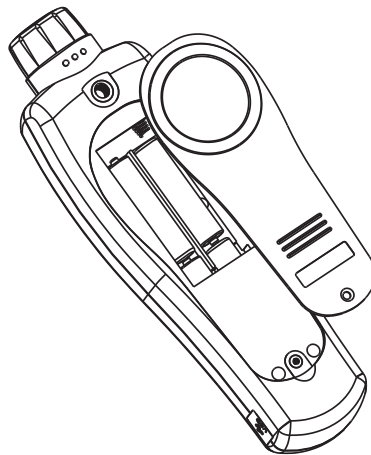

Figure 7
B. Replacing the Battery (see figure 7)
4. Take out the old battery and replace with 4 x 1.5V battery (AA).